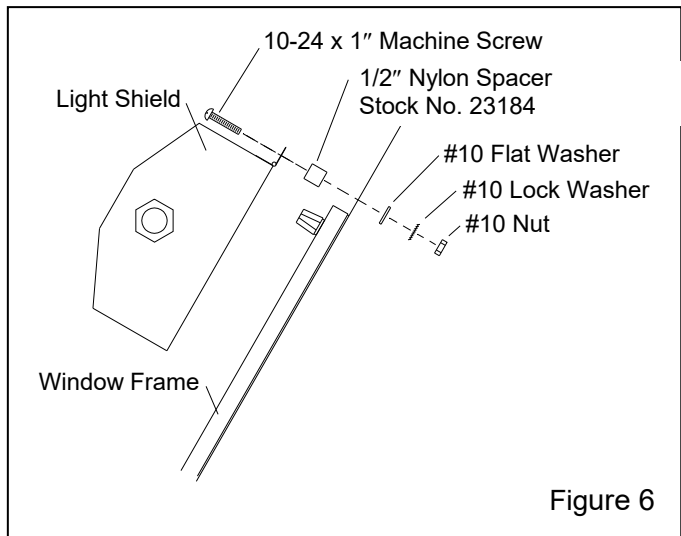

Figure 6
**6.1** Using the hardware provided, reattach the light-shield to the cabinet, as shown in Figure 6.